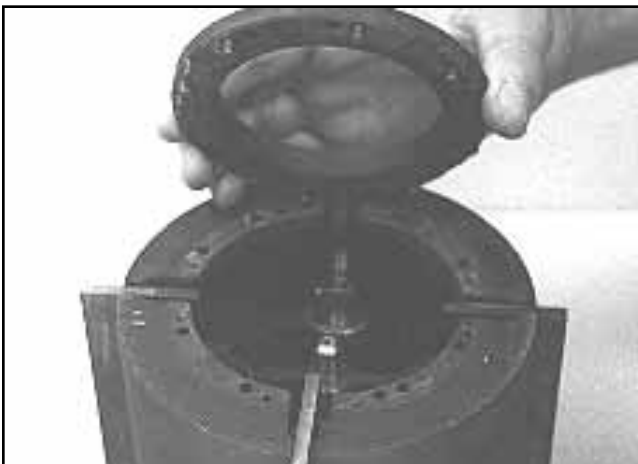

Figure 13
- Note locating pins in rotor cover, Figure 13.